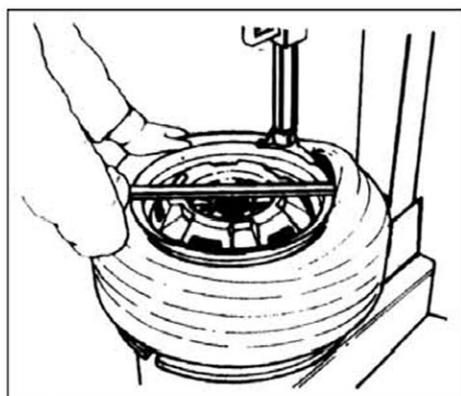
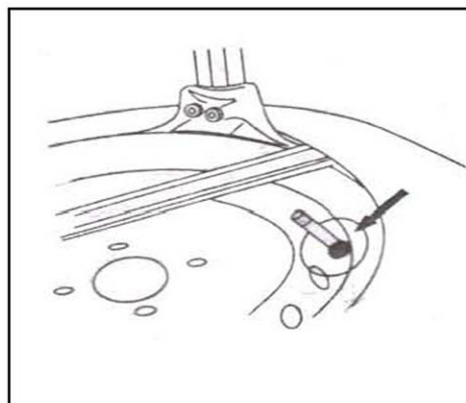

Fig23
Fig24
4.1.4 Use the crowbar to detach until the lip to the hump of the demount tool (fig23). Step the turntable rotation pedal (fig 2-8) to rotate the turntable clockwise until the rim of the wheel fall off. If handling the tube tire, to avoid the damage on the tube, you should keep the nozzle of the tire 10cm from the right side of the demount tool See fig24.